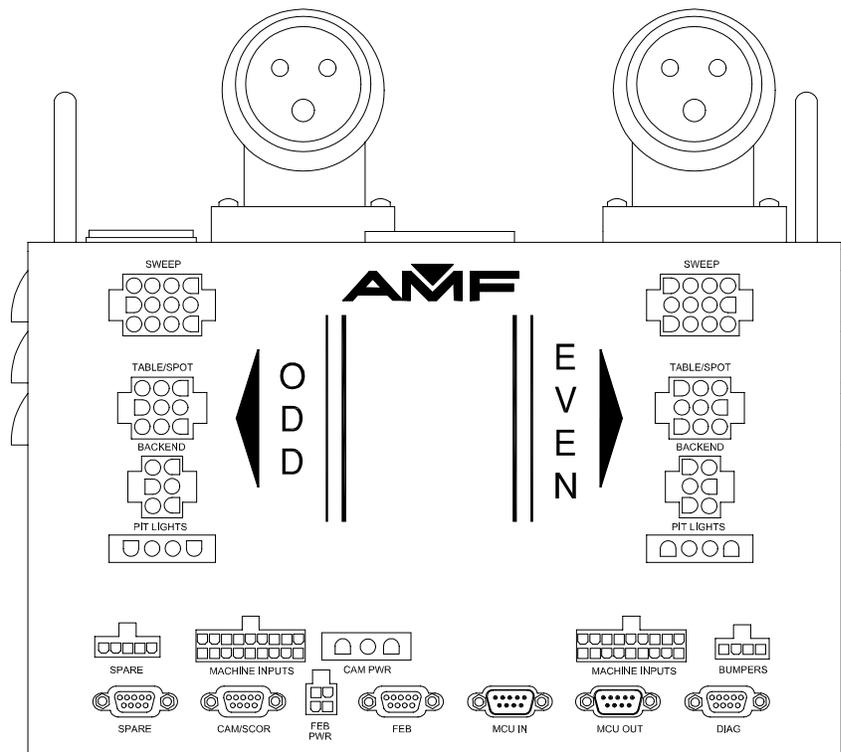

Figure 2, 90XL Chassis, Connection Layout
2. Attach the connectors of the odd machine's power cable (090-008-914) to the connectors on the back of the 90XL chassis as follows (refer to Figures 2, 3, & 4):